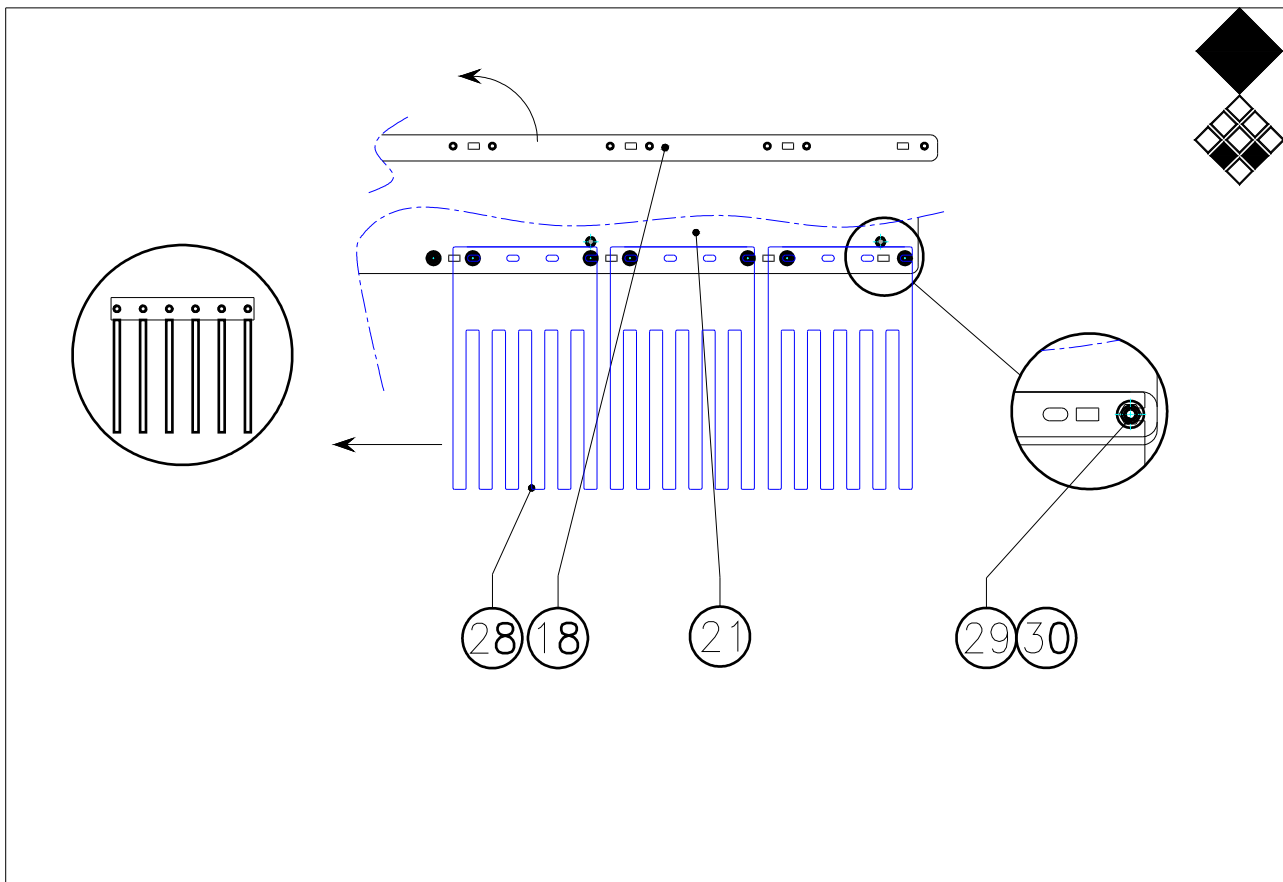

fig.10
3.2 Mounting the fingers for multi-tine tineholder (fig.10)